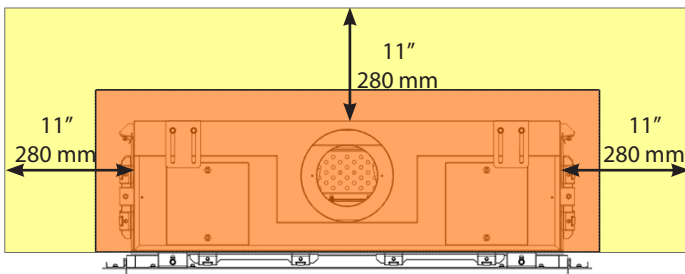

Figure 7 Plan View - Modore 95
- The minimum clearance to non-combustible material is 2"/50 mm. (See Figures 7 - 15, clearance shown in red)
Figures 7* through 9* show (in yellow) the clearances to combustible material which *must* be maintained.